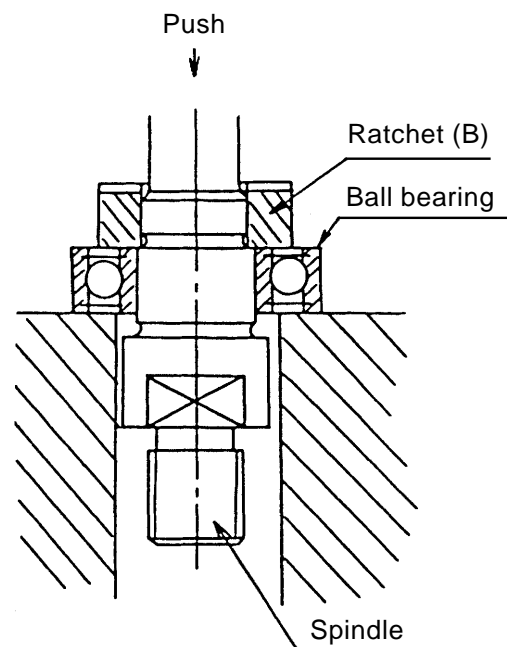

Fig. 5
(3) Remove Ratchet (B)
Remove Ratchet (B) by using a jig shown in Fig. 5.